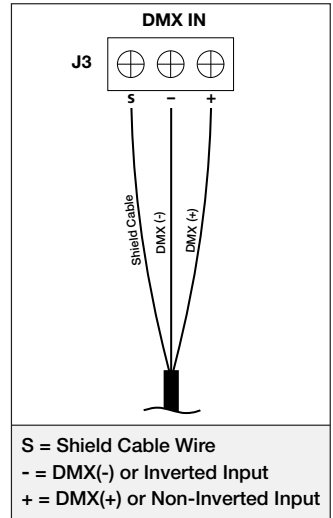

FIGURE 3c
6. The wires will be installed as shown to the right in FIGURE 3c.